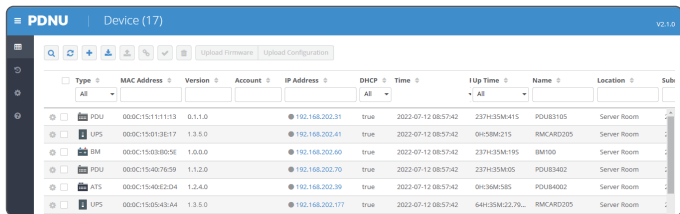

Figure 1. The main window of the "Power Device Network Utility 2" program
3. The main window of the Power Device Network Utility 2 program is shown in Figure 1. The configuration tool will display all CyberPower Remote Management devices present on the local network subnet. The "Scan" button is used to search the local network subnet again.